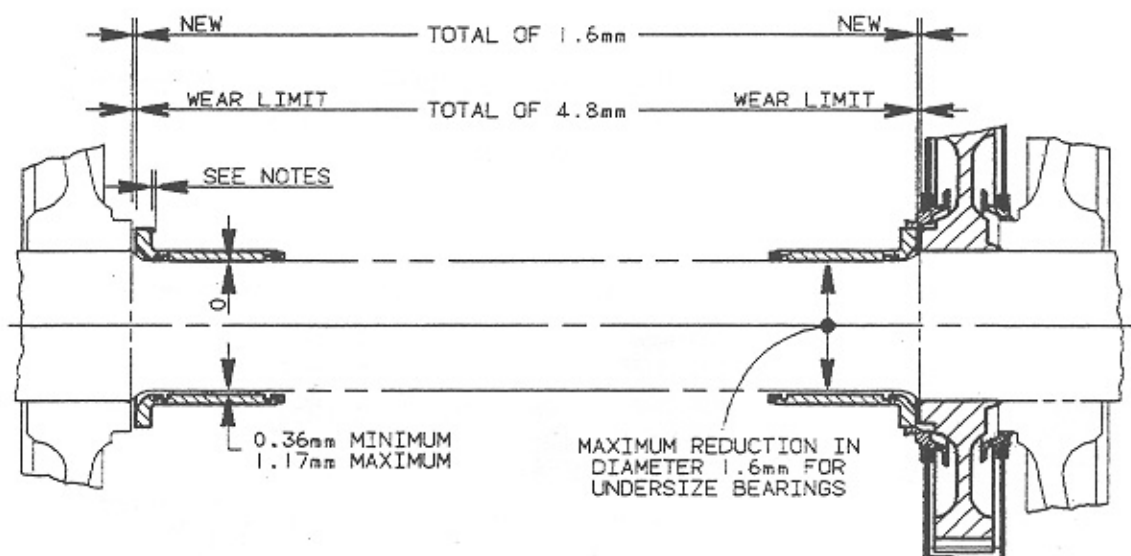

Fig. 23 - Support Bearing Clearances
6. Measure lateral and radial clearance as shown in Fig. 23.